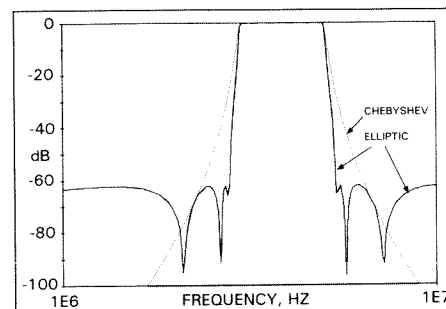

Figure 1. Seven pole elliptic bypass filter vs. seven pole Chebyshev.
Figure 1 compares a seventh order Chebyshev bandpass filter which has 0.18 dB passband ripple with one particular seventh order elliptic filter which has the same passband ripple. The elliptic filter is characterized by its steeper transitions and by the stopband ripple which, on a dB scale, appears as response "loops". The magnitude of these loops, the steepness of the transitions, the locations of the stopband notches (transmission zeroes), the passband ripple and the input/output reflection coefficients are interrelated in complex ways which cannot be covered here but are discussed in the literature (1,2). The main point is that in many applications the steeper transitions, at the cost of stopband loops, is a desirable trade-off. For example, in radio communications systems, if adjacent channel signals can be reduced several dB, substantial improvements in such things as desensitization, reciprocal noise mixing and intermodulation may be obtained, especially in collocated strong signal environments (4). In certain digital receiver topologies DSP aliasing problems can be improved considerably. Also, the cascading of low-order elliptic